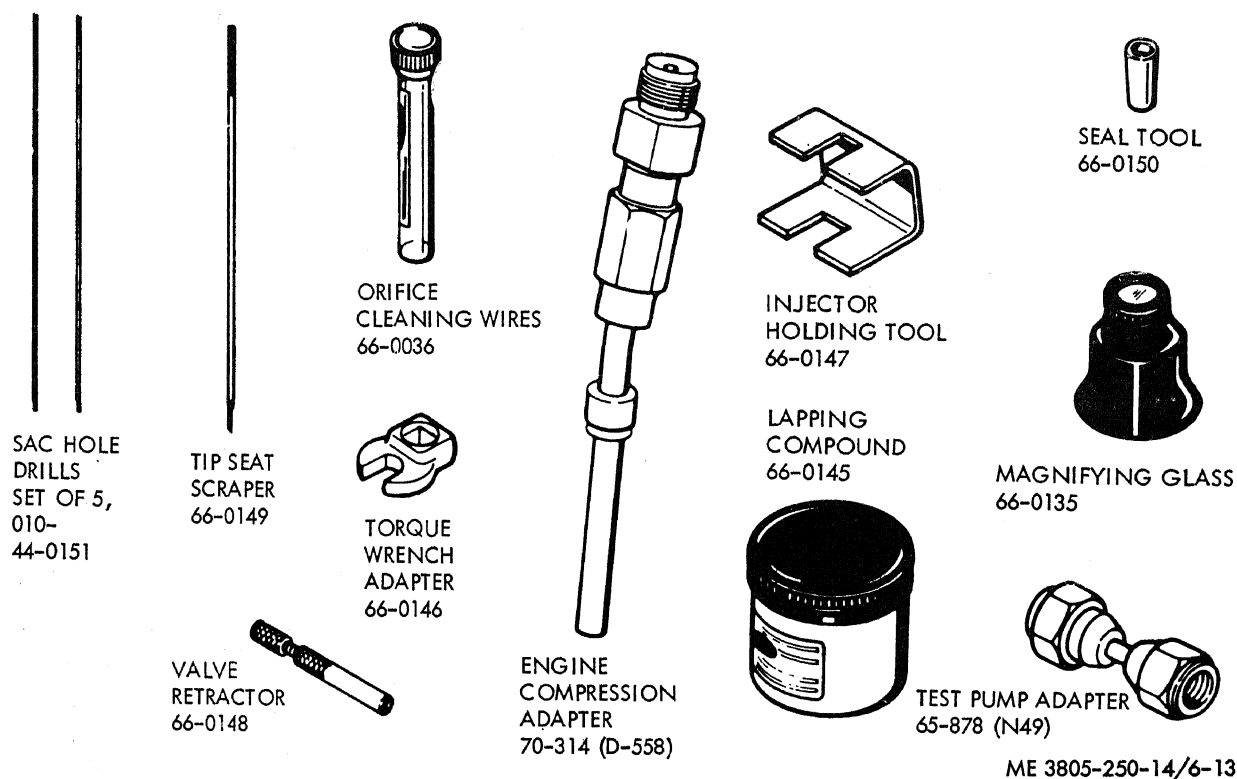

Figure 6-13. Fuel injector tool kit.
Note. The fuel injector tool kit (fig. 6-13) is used in
(1) Place all components in solvent to remove carbon deposits.
(2) Clean the injector body and tip with a brass wire brush. Clean carbon from spray orifices with 0.008, 0.009, and 0.010 inch diameter cleaning wires (fig. 6-13). Secure the wire in the pin vise with the wire protruding 1 / 32 inch to prevent the wire from breaking off in the sac hole.
(3) Replace injector if any orifices are chipped at the edges or eroded so that spray pattern is affected.
(4) Clean the seat in the tip with scraper tool (66-0149).
(5) Insert sac hole drill (66-0151) into the sac hole. Rotate to remove deposits.
(6) Inspect the valve for pitting or erosion which could cause leakage.
(7) Inspect the adjusting screws for thread damage and replace if necessary.
g. Lapping. Lap the injector valve to the guide as follows. Lapping tools are a part of the fuel injector tool kit, figure 6-13.
(1) Disassemble the injector and flush the nozzle with solvent.
(2) Place a small amount of lapping compound on the valve seat and insert the valve onto the body. Grip the top of the valve with the retractor.
(3) Rotate the valve by hand, first clockwise, then counterclockwise a total of 3 to 5 revolutions.
(4) Flush the body with solvent and reassemble the injector.
(5) Retest the injector (subpara e). If the seat is tight but chatter is lost, replace the injector.